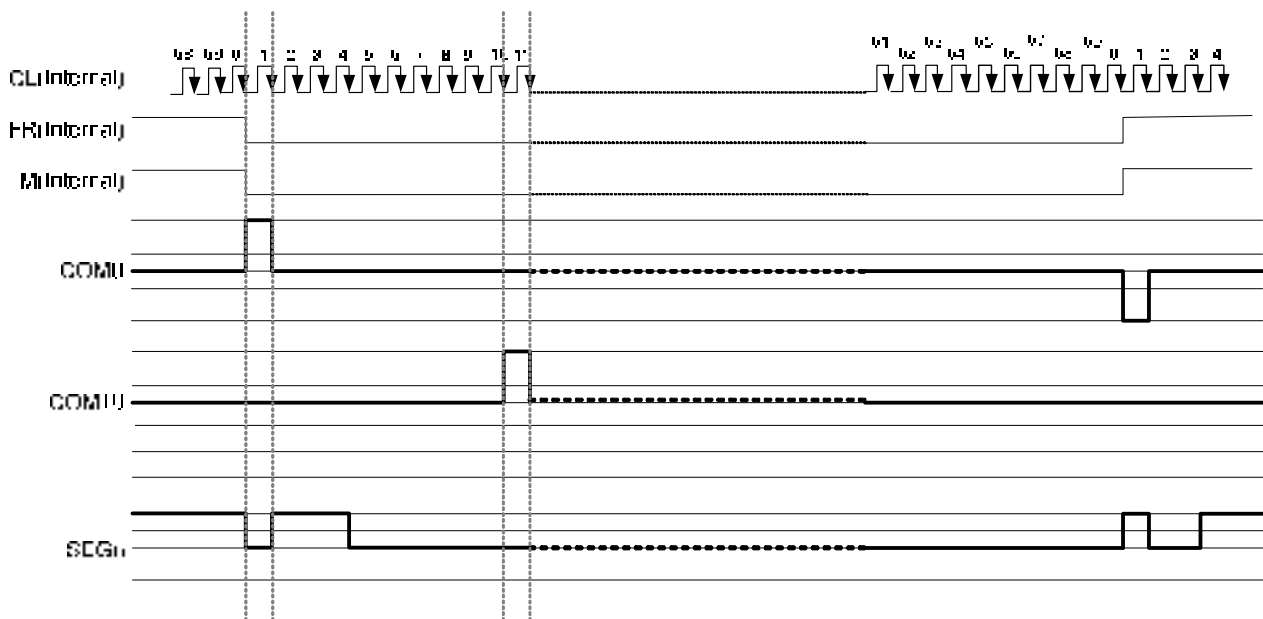

Figure 7.5 2-frame AC Driving Waveform (Duty Ratio: 1/70)
This circuit generates some signals to be used for displaying LCD. The display clock CL (internal), which is generated by oscillation clock, generates the clock for the line counter and the signal for the display data latch. The line address of on-chip RAM is generated in synchronization with the display clock and the display data latch circuit latches the 96-bits display data in synchronization with the display clock. The display data, which is read to the LCD driver, is completely independent of the access to the display data RAM from the microprocessor. The display clock generates an LCD AC signal (M), which enables the LCD driver to make an AC drive waveform, and also generates an internal common timing signal and start signal to the common driver. The frame signal or the line signal changes the M by setting internal instruction. Driving waveform and internal timing signal are shown in Figure 7.5.